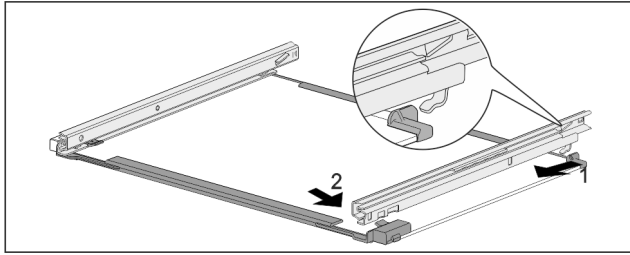

Fig. 196 Glass shelf with rails
- Hook in rail at the back. *Fig. 196 (1)*
- Hook in rail at the front. *Fig. 196 (2)*